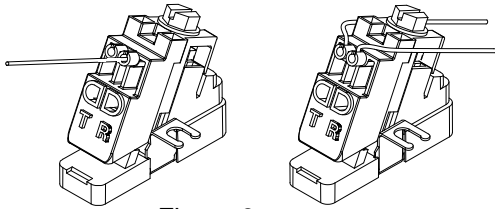

Figure 3
2. Upper Port Subscriber Connections (See Figure 3) Subscriber terminations are already made at the factory. If it is necessary to re-terminate a subscriber wire, do so as follows:
7. Dress the wires through the strain relief slots to hold them in place (See Figure 3).